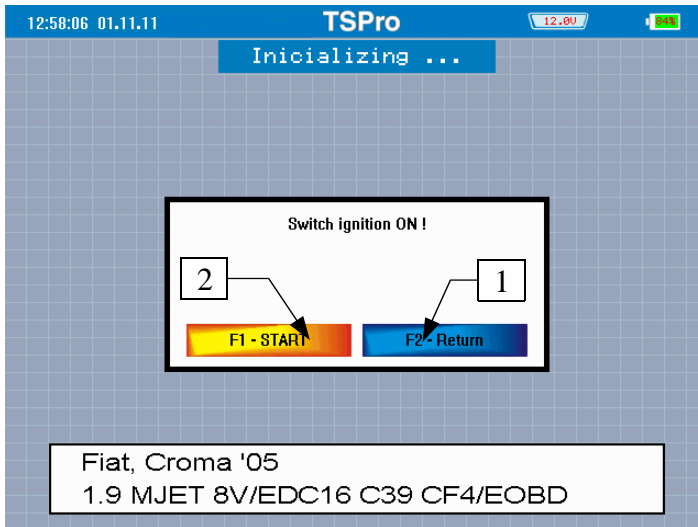

Figure 3.4
A dialog window asking you to switch the ignition on will appear after selecting and confirming both the type and the system of the ECU (Figure 3.4). In the lower part of the screen (1), details about the ECU are shown.